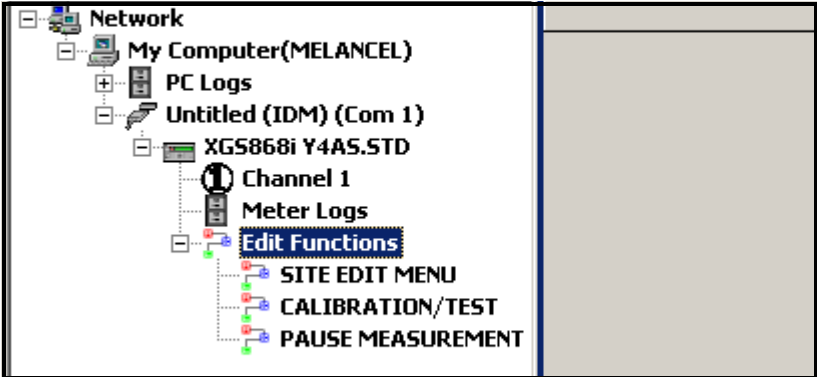

Figure 40: Menus in the *Edit Functions* Option
2. Expand the *Edit Functions* option. The window now appears similar to that shown in Figure 40 on page 91.
- 4. To enter a particular menu (Channel 1, Channel 2, or Global), highlight and double-click on the desired menu in the left pane. For example, clicking on Channel 1 in Figure 40 opens the list of options shown in the center pane.